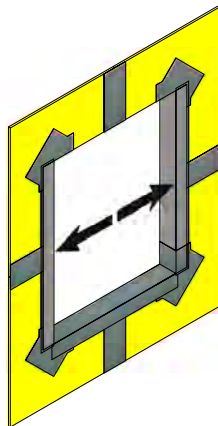

Figure 12
10. Repeat steps 7, 8, and 9 for the rough opening jambs and head. (See Figures 12,13,14)